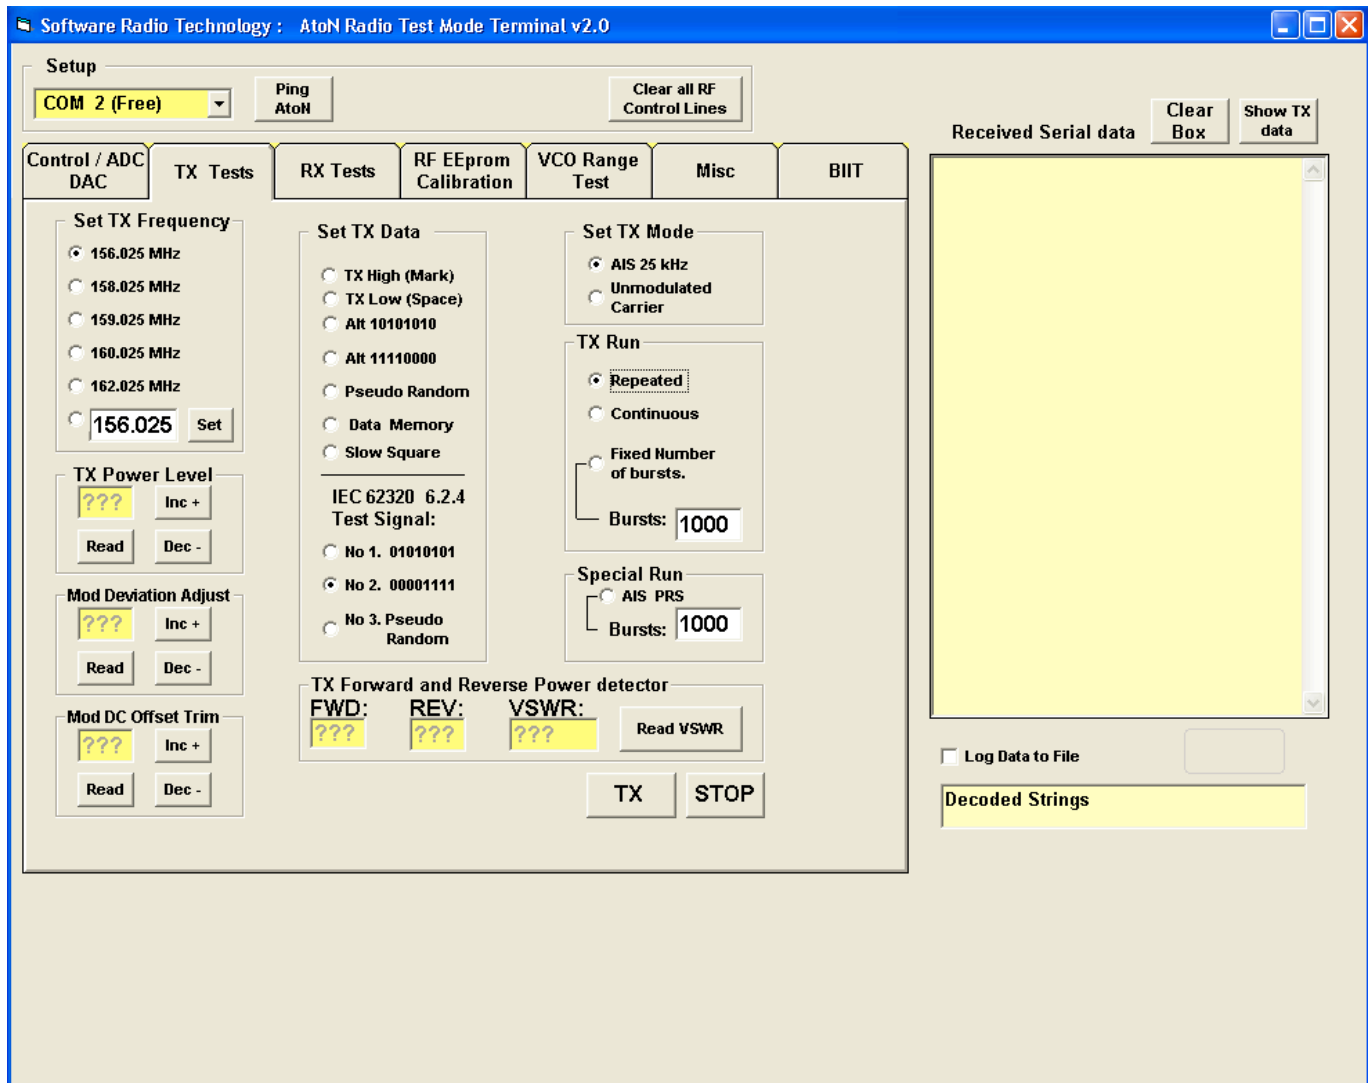

Figure 5
4. Select the “*TX Tests*” tab and select the following: (per Figure 5). **Set Tx Frequency** to 156.025MHz. (Min.) Under **IEC 62320 6.2.4 Test Signal** select test signal No. 2 (00001111). **Set TX Mode** to AIS 25 kHz. (This will automatically be selected with the selection of test signal No. 2) and set **TX Run** to **Repeated**.